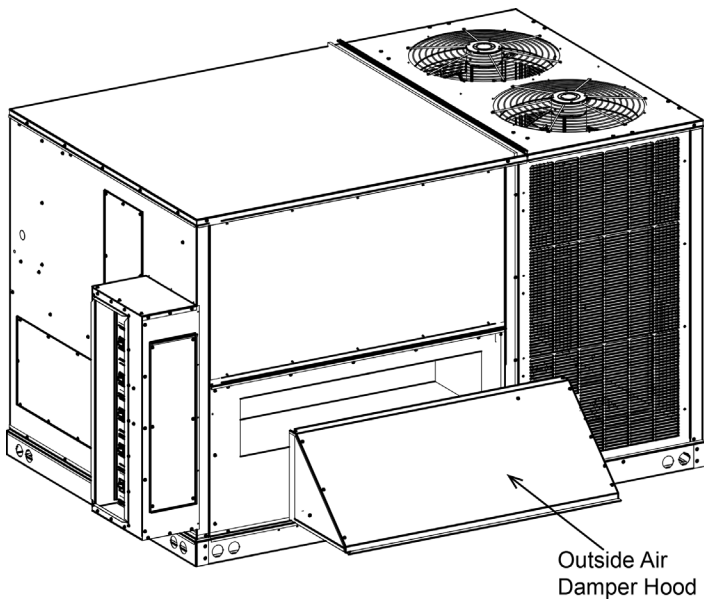

FIGURE 8 - MEDIUM DAMPER HOOD
6. Fasten the fully assembled outside air damper hood to outside air damper assembly using provided screws (see Figure 8).